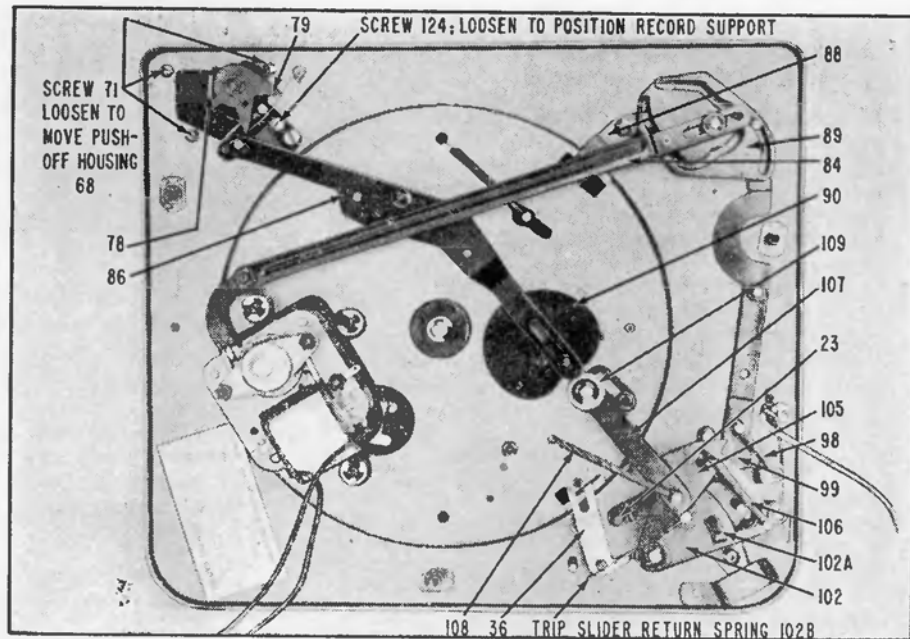

Fig. 4. RC550 Record Changer, Bottom View, Changer Out of Cycle.
The 78 RPM drive shaft is part of the motor armature. The 33 RPM drive shaft (44) and the 45 RPM drive shaft (45) are moved in and out of position mechanically by the motor shift link (84), which is controlled by the selector cam (89). See figure 4.
As the drive gear begins to rotate, the control cam (90) also rotates, since both parts are mounted on the same shaft. See fig. 4. As the control cam rotates clockwise, drive link roller (109) riding against the cam moves the drive link (107), which in turn rotates the control plate (102). As the control plate rotates, the incline tab (102A) rides across the tone arm lift rod (12), lifting the tone arm from the record. The stud on the arm control lever (23) then is engaged by the safety arm (105) (which rotates with the control plate), moving the tone arm away from the centerpost.
If the record support is not positioned evenly under the bottom record of a stack to be played, one side of the record may drop to the turntable before the other. With the push-off assembly in the 10-inch position, place a 10-inch record over the upper portion of the centerpost so that the edge of the record fits against the edge of the record support (64). See figures 4 and 7. The contour of the record SHOULD follow the contour of the record support. If these contours do not match, position the push-off assembly as follows:
If records do not push-off satisfactorily, or more than one record drops to the turntable during change cycle, it may be necessary to adjust the distance between the centerpost and the record support. See Figures 4 and 8. Make this adjustment as follows:
When replacing the selector cam (89), place the size and speed selector knob (26) so "STD-10" lines up with the indicating dot, hold the selector cam in the position shown in Figure 4, and install.
Before replacing the control cam (90), be sure that the changer is out of change cycle. Place the control cam in the position shown in Figure 4, and install.